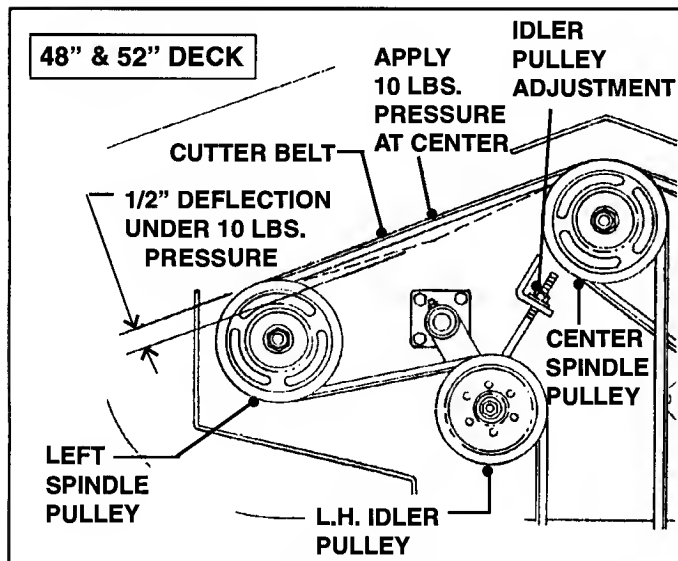

FIGURE 5.34
1. Apply 10 pounds pressure to the middle of the Belt between the center and left hand Spindle Pulleys as shown in Figure 5.34. The Belt should move no more than 1/2".
1. Check tension of Belt between center and right hand Spindle Pulleys. The Belt should move no more than 1/2". Refer to Figure 5.34.